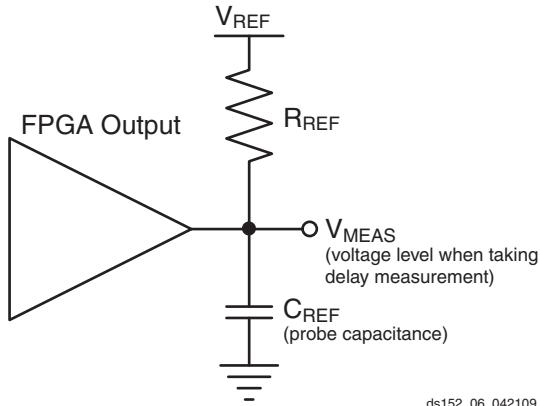
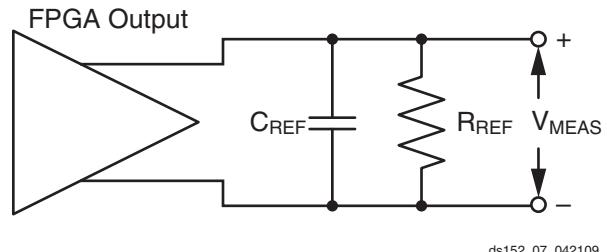

Figure 16: Single Ended Test Setup
Figure 17: Differential Test Setup
5. This is an input voltage reference that bears no relation to the V_{REF} / V_{MEAS} parameters found in IBIS models and/or noted in Figure 16.
Output delays are measured using a Tektronix P6245 TDS500/600 probe (< 1 pF) across approximately 4" of FR4 microstrip trace. Standard termination was used for all testing. The propagation delay of the 4" trace is characterized separately and subtracted from the final measurement, and is therefore not included in the generalized test setups shown in Figure 16 and Figure 17.